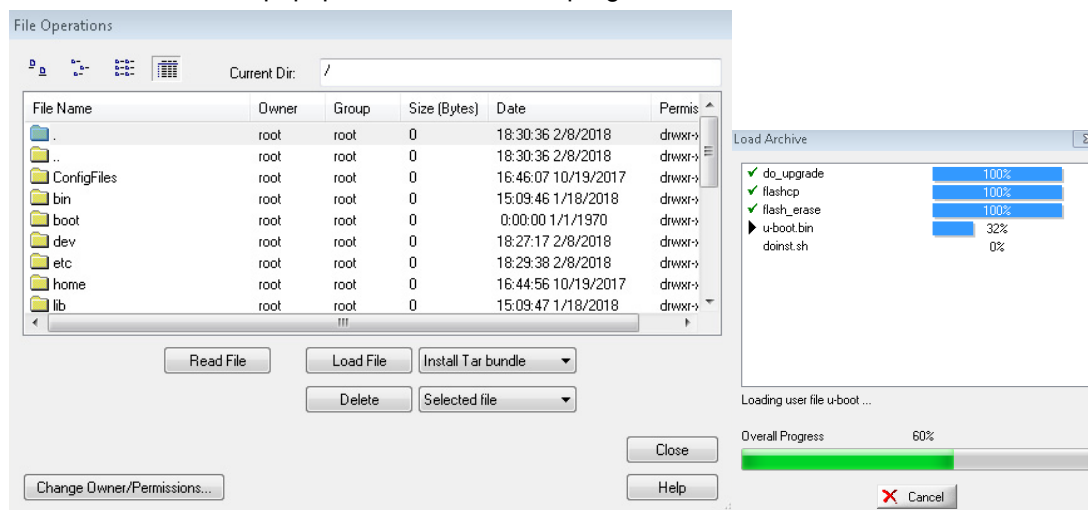

Figure 1.
3. Referring to Figure 1, go to the File Operations window and select the *Install Tar Bundle* option and click the *Load* button. Select the bootloaderNov\_2017.tgz file and click the *Open* button to begin the boot loader installation; the Load Archive popup shows file transfer progress.